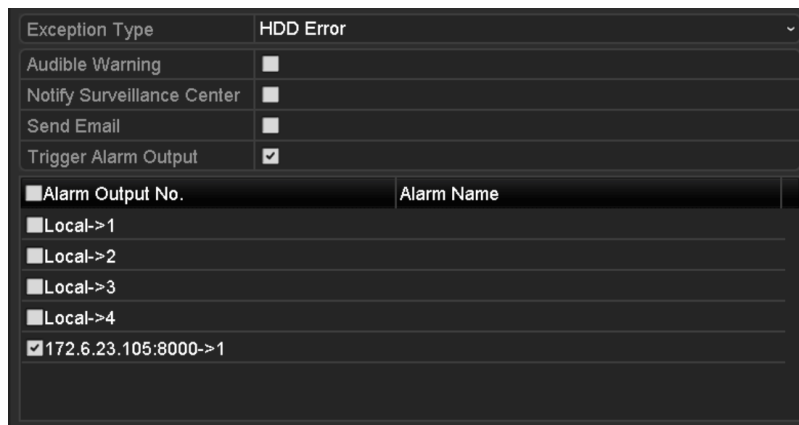

Figure 11-27 Configure HDD Error Alarm
Step 3 Click the checkbox(s) below to select the HDD error alarm type (s), as shown in Figure 11-27.